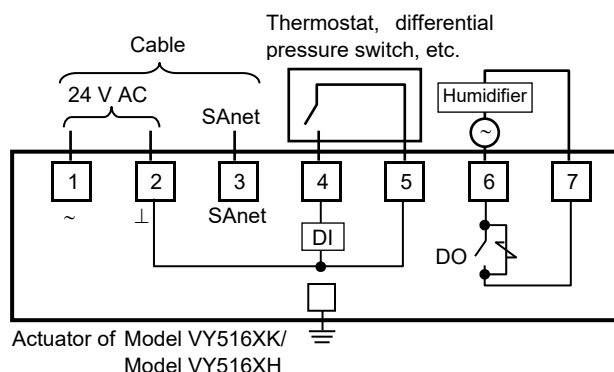

Figure 12. Basic connection example
- 3) Correctly connect the wires to the terminals with M3.5 screw terminal lugs, referring to Fig. 12.